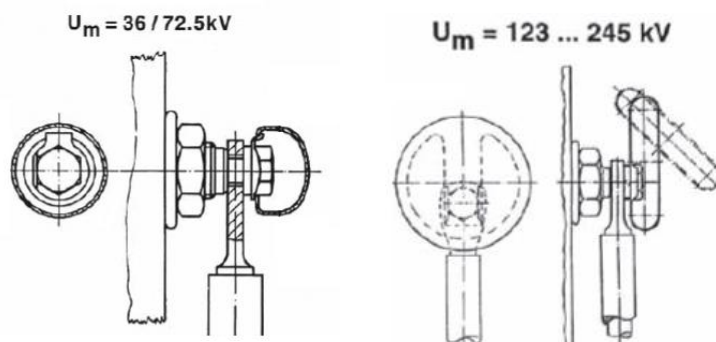

Figure 19
(8) Remove the M10 bolts, shields and other parts of the connecting wires on the diverter switch oil compartment, and fasten the tap selector wires to the corresponding outlet contacts of the diverter switch, and cover the shield. The tightening torque is 50 Nm (Fig. 19).
- (6) Remove the M10 bolts, shields and other parts of the connecting wires on the diverter switch oil compartment, fasten the tap selector wires to the corresponding contacts of the diverter switch, and cover the shield (Fig. 19).